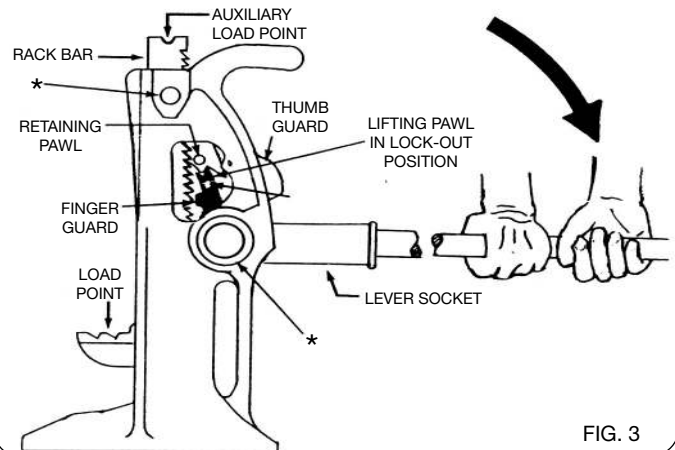

FIG. 3
4. Lubricate periodically at points marked with an (\*) asterisk (see Fig. 3 on page 2) with a good grade of SAE 20 wt. oil – **Avoid lubrication of the tooth surface or pawls and rack bar.**
5. Remove jack from service and **immediately replace any parts which appear worn, bent, cracked, rusted or otherwise damaged.** Replacement parts may be obtained from an Enerpac Authorized Service Center (contact Enerpac for referral). Repaired jack should be tested to sustain a 15 ton load (applied at the load point as shown in Fig. 3, page 2). The jack should also be checked in operation to extend full travel, and release per quick trip instructions on page 2.